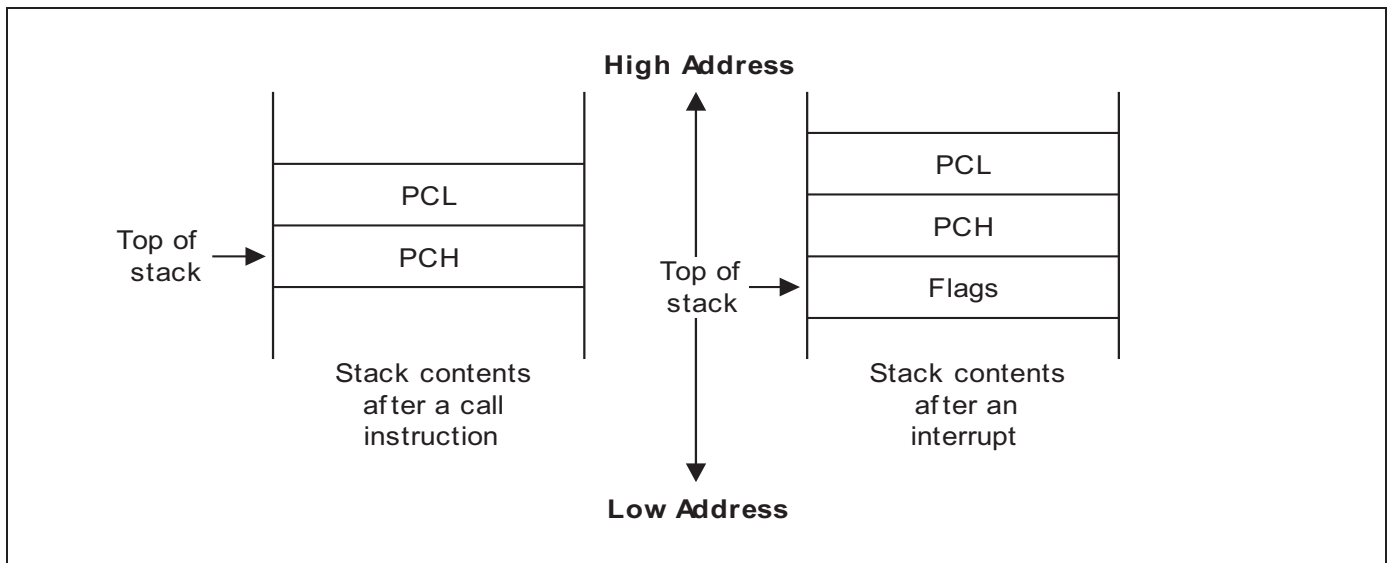

Figure 2-16 Stack Operations
It stores return addresses for procedure calls, interrupts, and data on the stack. A CALL instruction saves the contents of the PC to stack and RET instruction restores it. When an interrupt occurs, it pushes the contents of the PC and the FLAGS register to the stack. The IRET instruction then pops these values back to their original locations. It always decreases the stack address value by one before a push operation and increases by one after a pop operation. The stack pointer (SP) always points to the stack frame that it stores on the top of the stack, as illustrated in Figure 2-16.
Figure 2-16 illustrates the stack operations.